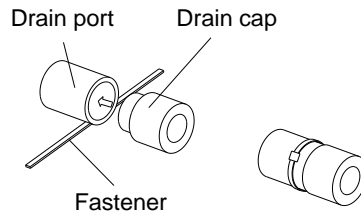

Figure 3-1-11
(7) When the unit is shipped from the factory, the drain port is defaulted to be the one on the left side (electric box side), the port on right side has been plugged.
(8) When using the drain port on the right side of the unit, reinstall the drain cap to the left side drain port. (Figure 3-1-11)